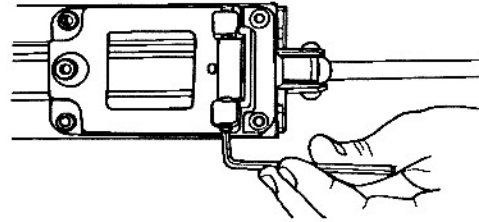

Fig. A-47
55. Use a 5/32" Allen wrench to loosen the setscrews on both sides of the fence body mount, as shown in Fig. A-47.